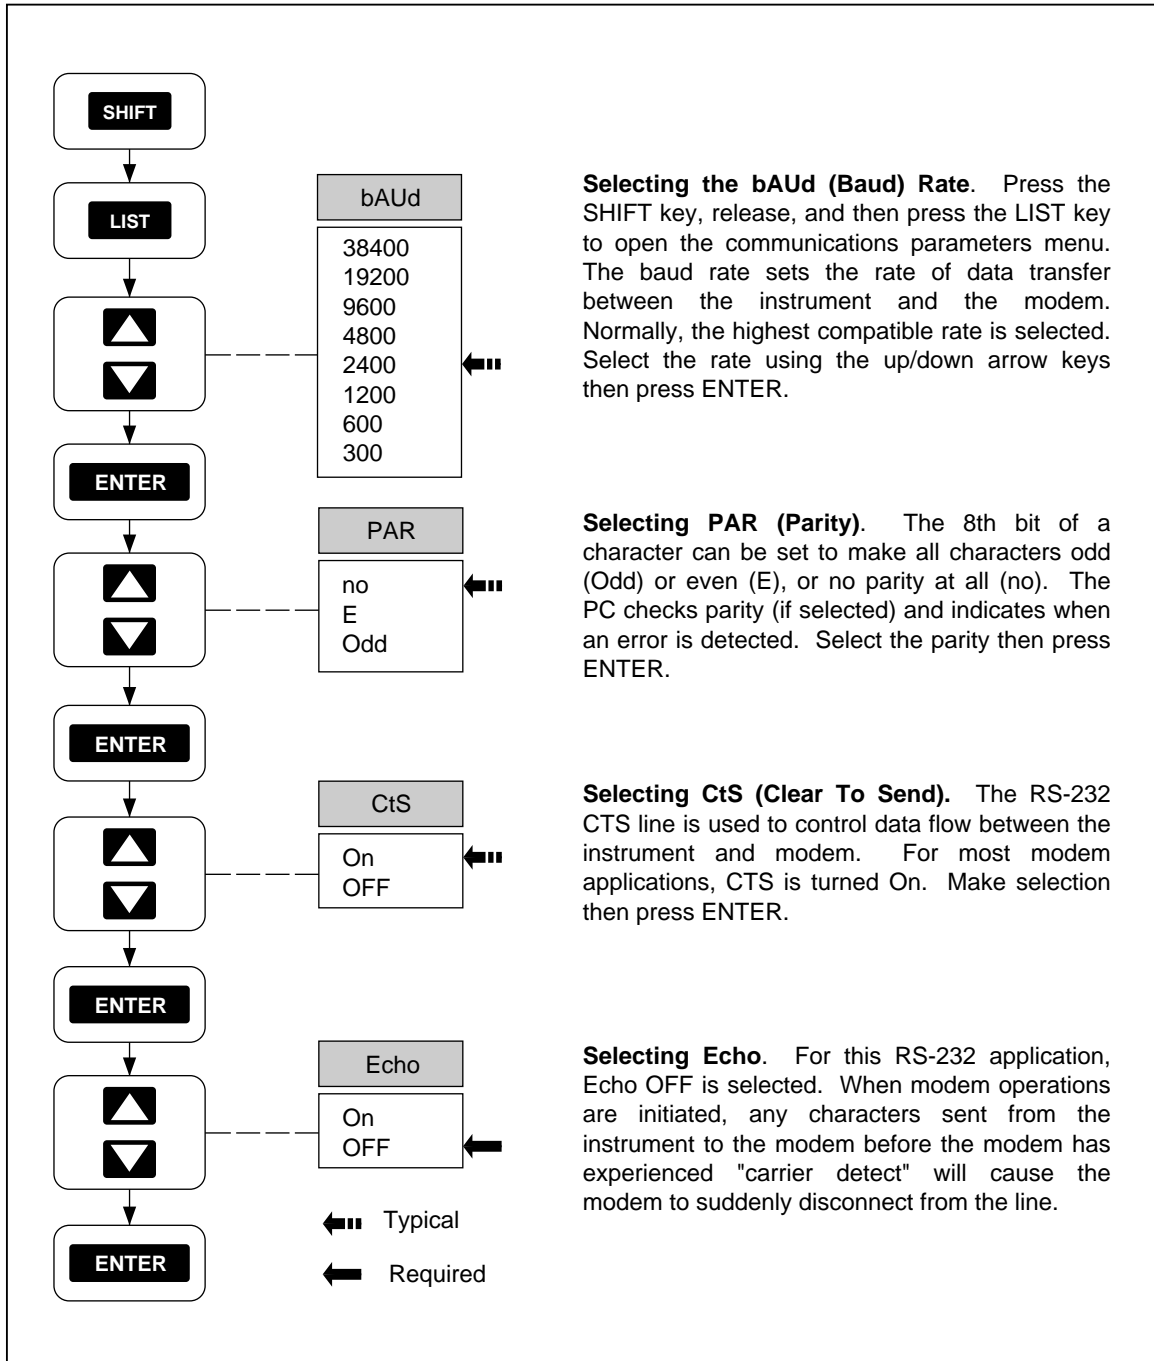

Figure 6-4. Configuring the Instrument RS-232 Port for Modem Operations
Correct operation of the instrument RS-232/modem link depends on the baud rate, parity, CTS (Clear To Send), and Echo of the link parameters. Perform the procedure in Figure 6-4 to establish the communication link parameters.
The PC end of the modem link involves a similar procedure of connecting the correct cable between the PC and modem, and configuring the modem to support the communications link. This is the responsibility of the user due to the variety of available modems and software. Be sure the PC COM port has the same parameters as those selected in Figure 6-4.
When all connections and configurations are complete, the PC should initiate communications with the modem supporting the instrument using the selected communications software. Typically, this means selecting a dial feature, or entering an AT command, e.g., ATDT 123-4567 from the terminal emulation screen. After the connection is made and the terminal emulation screen is present, enter a few <ENTER> characters to clear the instrument buffer, and note the instrument => prompts on the screen. Then enter the command *IDN? <ENTER> (since ECHO OFF was selected in Figure 6-4, the *IDN? characters will not appear on screen). The return should be FLUKE,2635A,0,Mn.n An.n Dn.n Ln.n where n.n is replaced with the versions of the displayed parameters. (See the *IDN? command in Chapter 4 for more information.) The RS-232/modem link is operating correctly and the PC may now operate using Starter or Logger applications software, or custom software.
1. No operation of any kind usually indicates a cabling problem, hardware incompatibility, a modem DIP switch problem, or incorrectly selecting ECHO ON in Figure 6-4 (ECHO OFF must be selected).